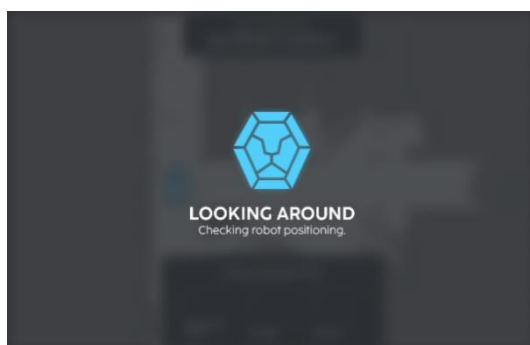

FIGURE 5-4
2. Wait for the 'LOOKING AROUND' screen (Fig 5-4).